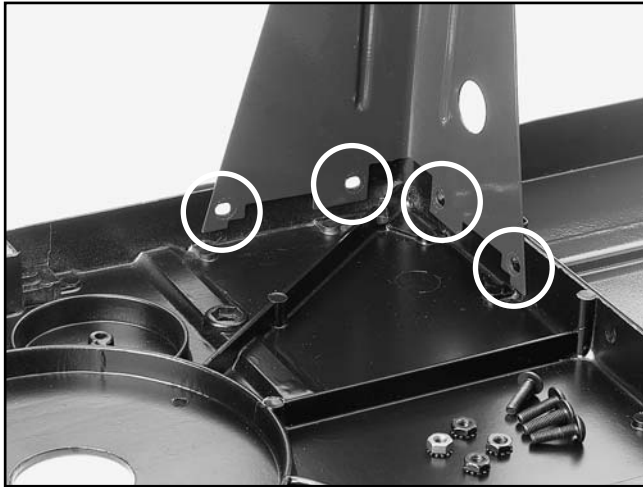

Figure 4. Aligning a leg with the main table.
3. Align one of the legs with the mounting holes on the inside edge of the main table as shown in **Figure 4**.